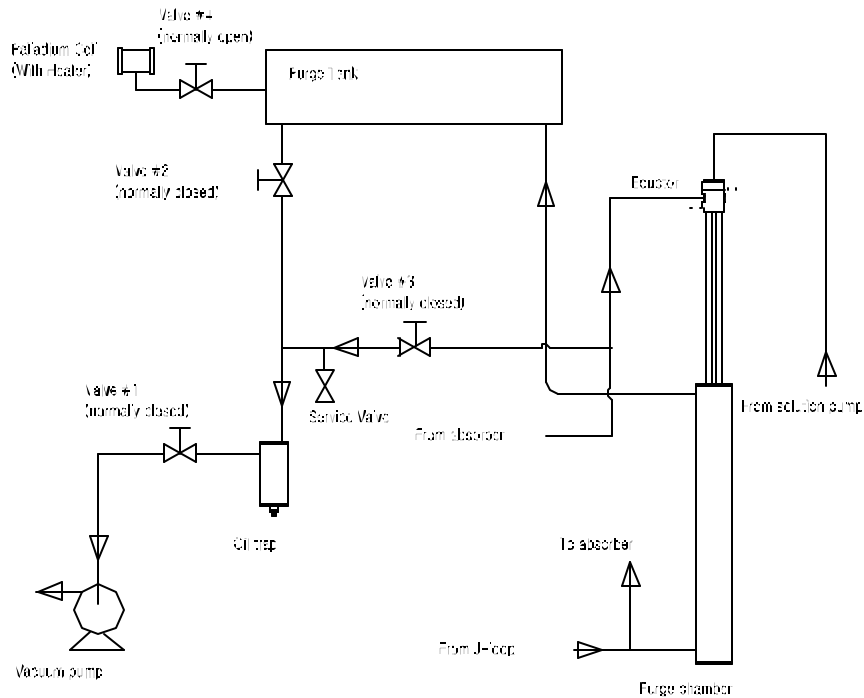

Fig. 8-1 Purge procedure
AUTOMATIC PURGE – Hydrogen gas, which is generated normally in the chiller, is exhausted to the atmosphere from the purge tank through the heated palladium membrane cell. This is done automatically and continuously during chiller cooling and heating operation. For the automatic purge, the valve #4 (Fig. 8-1) is normally placed in open position.
2. Turn the vacuum pump ON with ballast valve a little open. Initially, valve #1, #2 and #3 should be placed in closed position. See the Fig. 8-1 for valve location.
1. Make sure that the valves, #1, #2 and #3, are placed in closed position. (See the Fig. 8-1.)